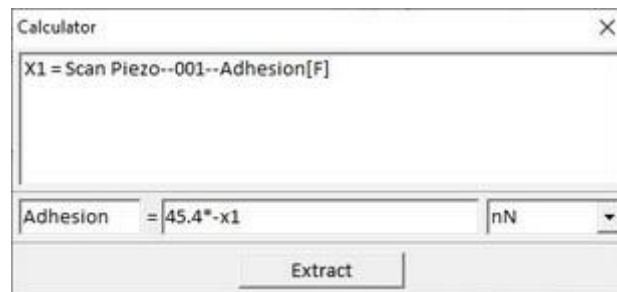

Fig. 2: Calculator tool with equation (10) applied
Using the equation (1), with  $k = 0.2 \text{ N/m}$  and  $S = 227 \text{ nm/V}$  in this specific case, it is possible to calculate the adhesion values measured at each image pixel using the relation (10) in the calculator tool (Fig. 2).